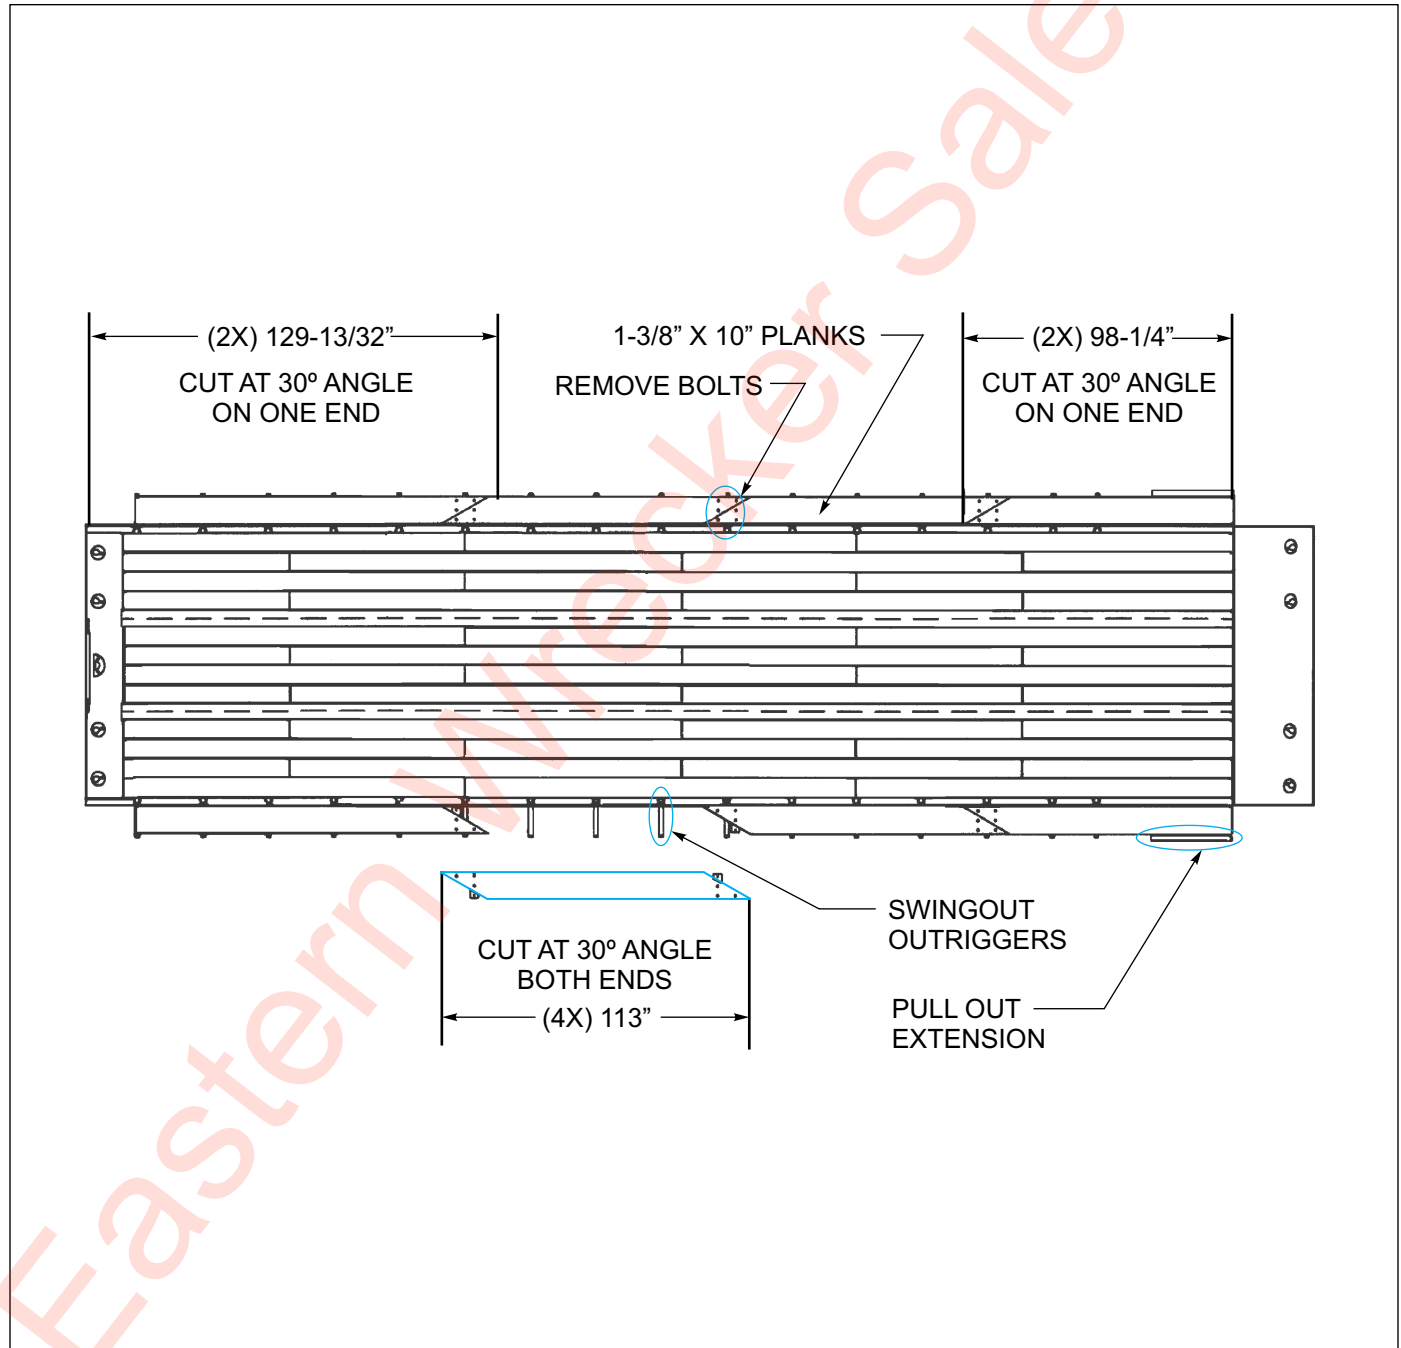

Figure 3-5: Outrigger Platform Extension
1. Unlatch and fold out swing-out outriggers (See Figure 3-5.)
6. Remove only two bolts for each joint (See Figure 3-5.) Leave braces attached to boards for storage.